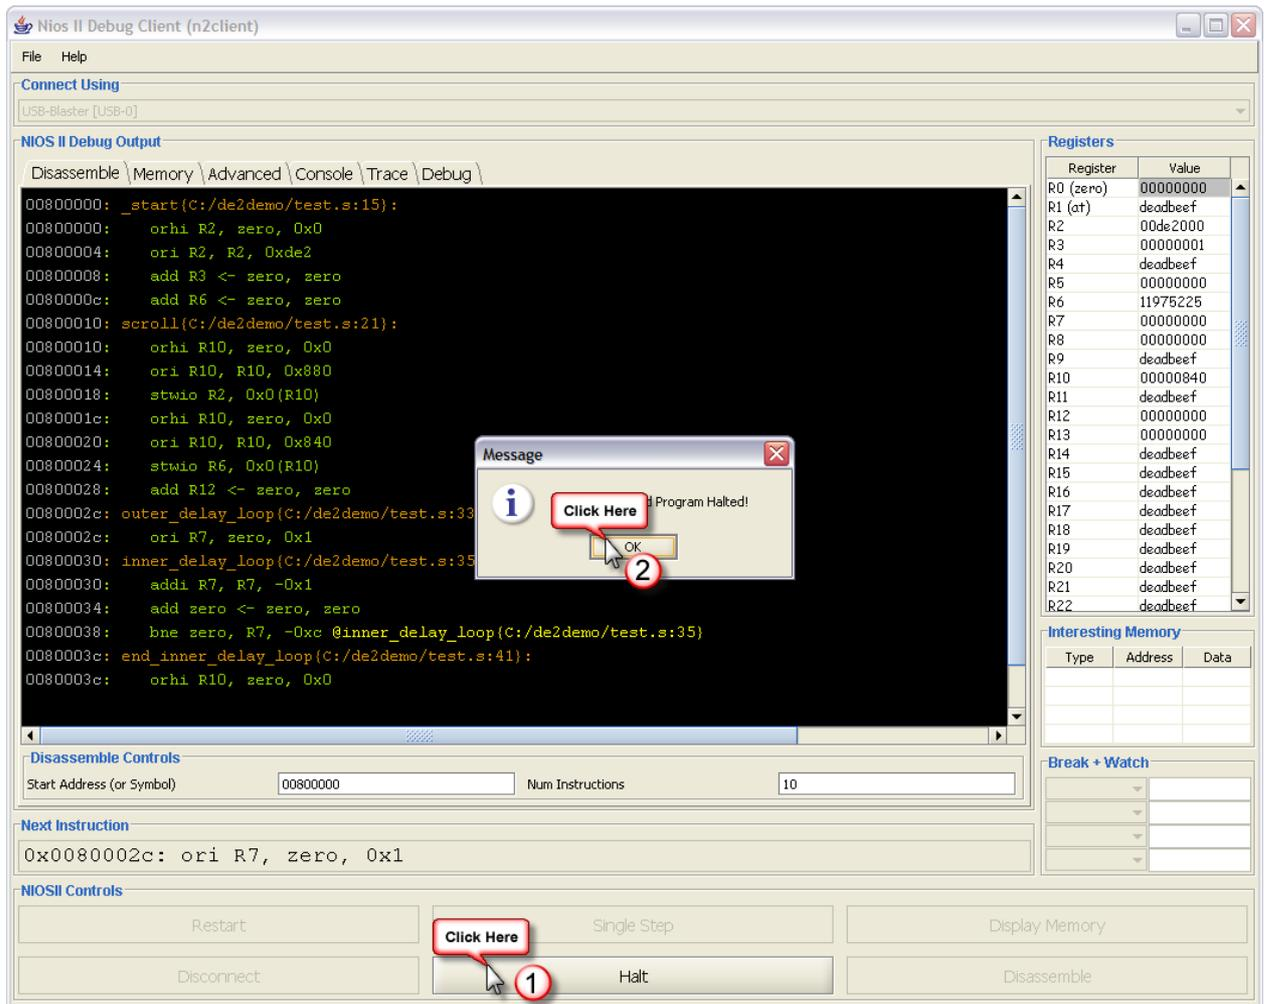

Figure 13: Program Stopped.
3. Click on the **Halt** button as shown in Figure 13. The Nios II Debug Client will then pop up a dialog box indicating that the application has been halted. Press the **OK** button and proceed to the next step.